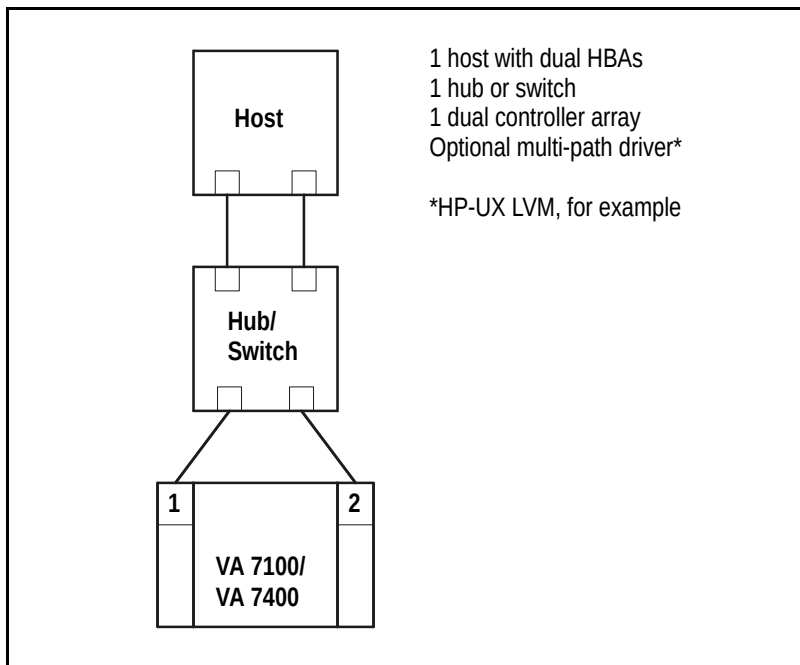

Figure 14 Mid-Range Non-Clustered with Optional Path Redundancy
- Mid-range non-clustered with optional path redundancy (see Figure 14)